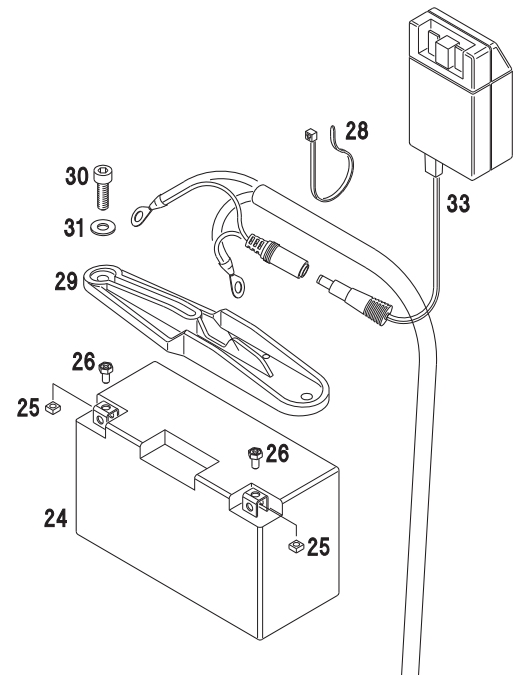

Fig. 13
- ➔ Connect the red plug of the charging unit on plus terminal of battery (fig. 13).